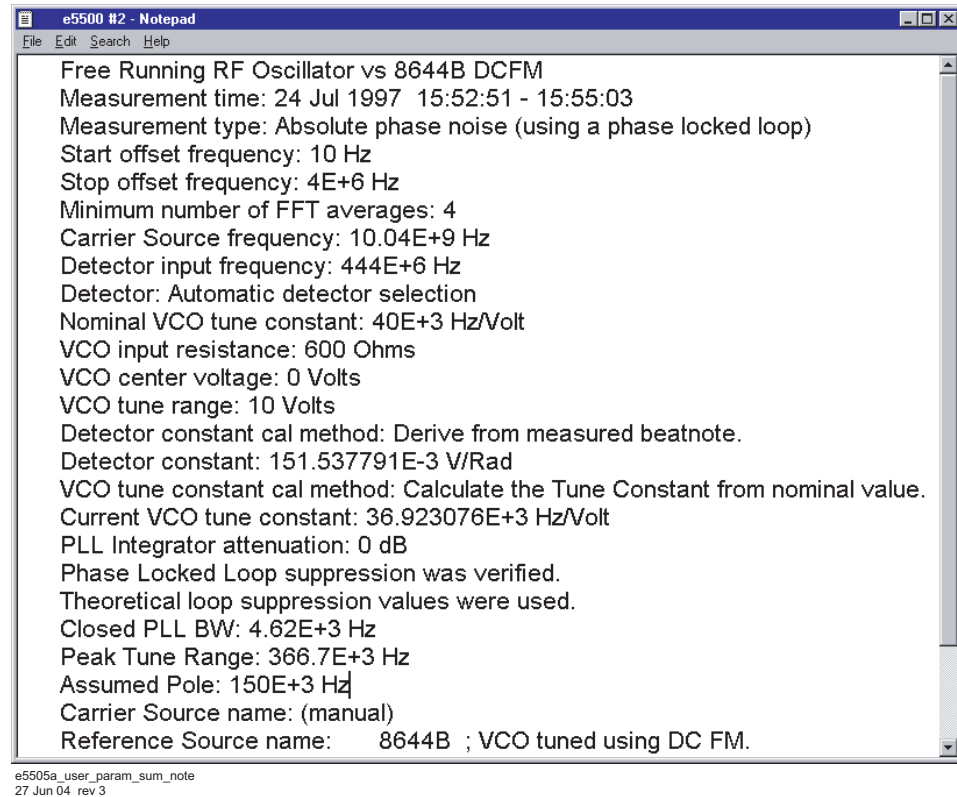

Figure 270 Parameter summary notepad
- 2 The Parameter Summary Notepad dialog box appears (Figure 270). The data can be printed or changed using standard Notepad functionality.